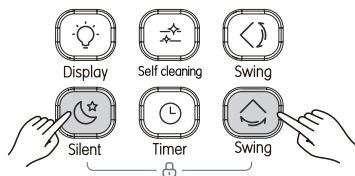

Figure 3.19
- 1) Press  and  at the same time to lock the button (see Figure 3.19), and the screen will display the lock icon;